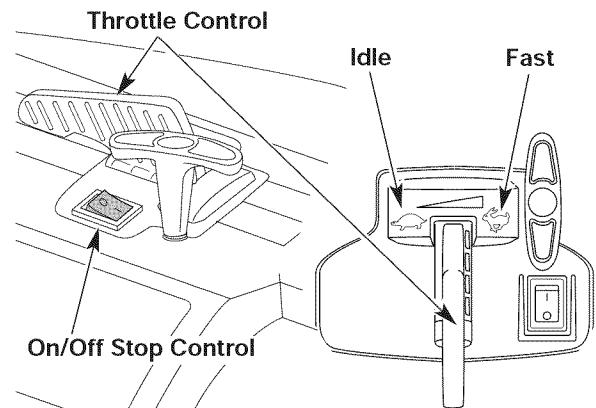
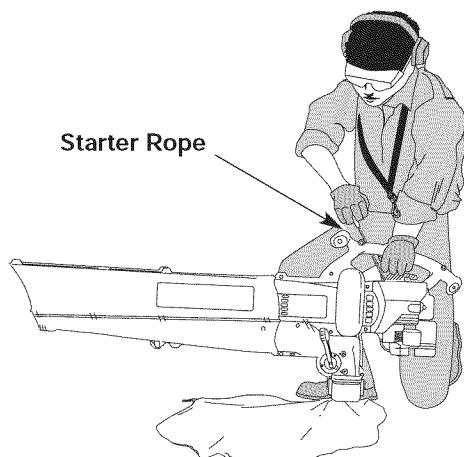

Fig. 9
Fig. 11
WARNING: Avoid accidental starting. Make sure you are in the starting position when pulling the starter rope (Fig. 11). To avoid serious injury, the operator and unit must be in a stable position while starting.
- Place the unit in the starting position (Fig. 11). Move the throttle control to the fast position (Fast) (Fig. 9).